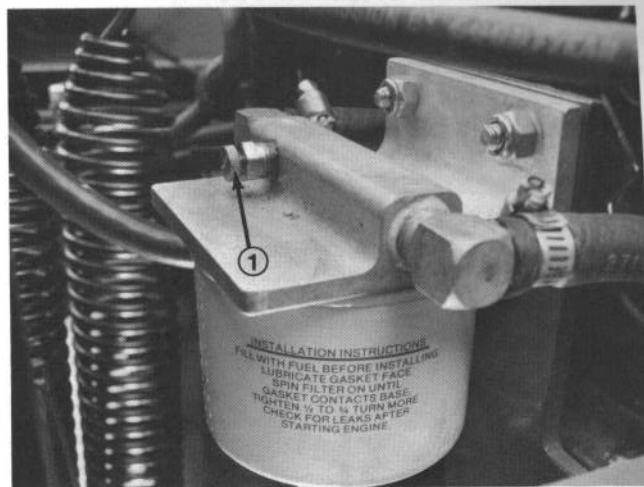

Figure 24
BLEEDING FUEL SYSTEM (Fig. 24 & 25)
2. Loosen air bleed screw on top of fuel filter/water separator (Fig. 24).